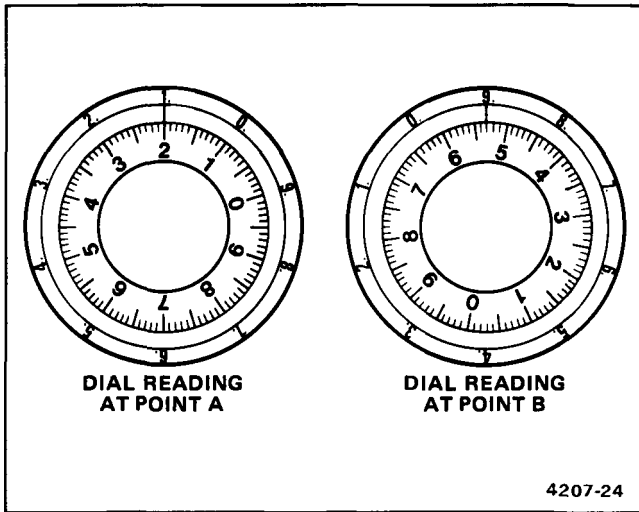

Figure 4-14. B DELAY TIME POSITION control settings.
**EXAMPLE:** With the A SEC/DIV switch set to 0.2 ms, the first B DELAY TIME POSITION dial setting is 1.20 and the second B DELAY TIME POSITION dial setting is 9.53 (see Figure 4-14).